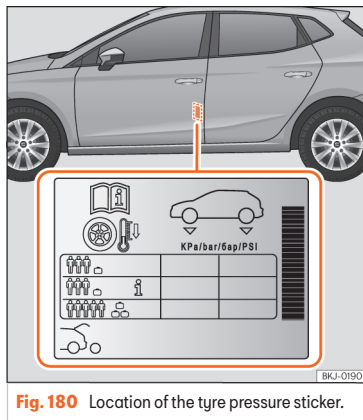

Fig. 180 Location of the tyre pressure sticker.
- Adjust tyre pressure to the load being carried by the vehicle »» Fig. 180.
The values of the tyre pressure are shown on the sticker label located on the rear frame of the front left door »» Fig. 180.
The tyre pressure must be adjusted according to the load the vehicle is carrying. If the vehicle is going to be fully loaded, increase the tyre pressure to the maximum load value shown on the sticker label »» Fig. 180.
In the case of a minimised temporary spare wheel (125/70 R16 or 125/70 R18) inflate to a pressure of 4,2 bar as indicated on the tyre pressure label »» Fig. 180.
Depending on the vehicle, tyre pressure can be adjusted to medium load to improve driving comfort [tyre pressure **i** »» Fig. 180]. When driving with comfort tyre pressure fuel consumption may increase slightly.
- **The driver is responsible for ensuring that all of the vehicle tyres are correctly inflated to the right pressure. The recommended tyre pressure is indicated on the label »» Fig. 180.**
- **Tyre pressure should be that indicated on the label when the tyres are cold at all times »» Fig. 180.**